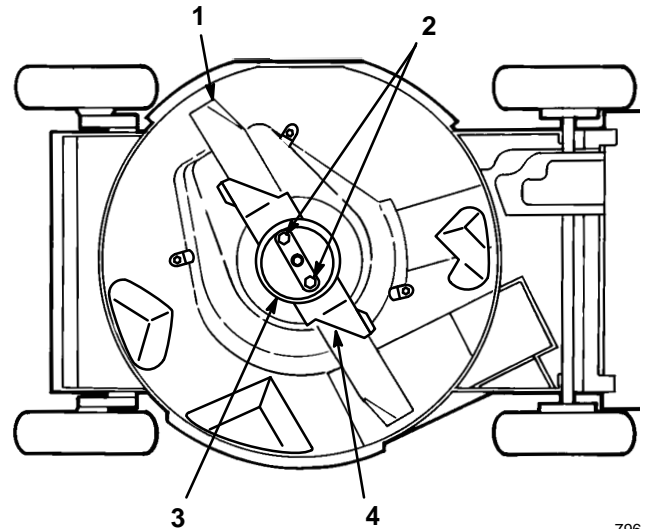

Figure 24
3. Tip mower on its left side (Fig. 24).
5. **REMOVING BLADE**—Grasp end of blade using a rag or thickly padded glove. Remove blade nuts, anti-scalp cup, accelerator, and blade (Fig. 24).